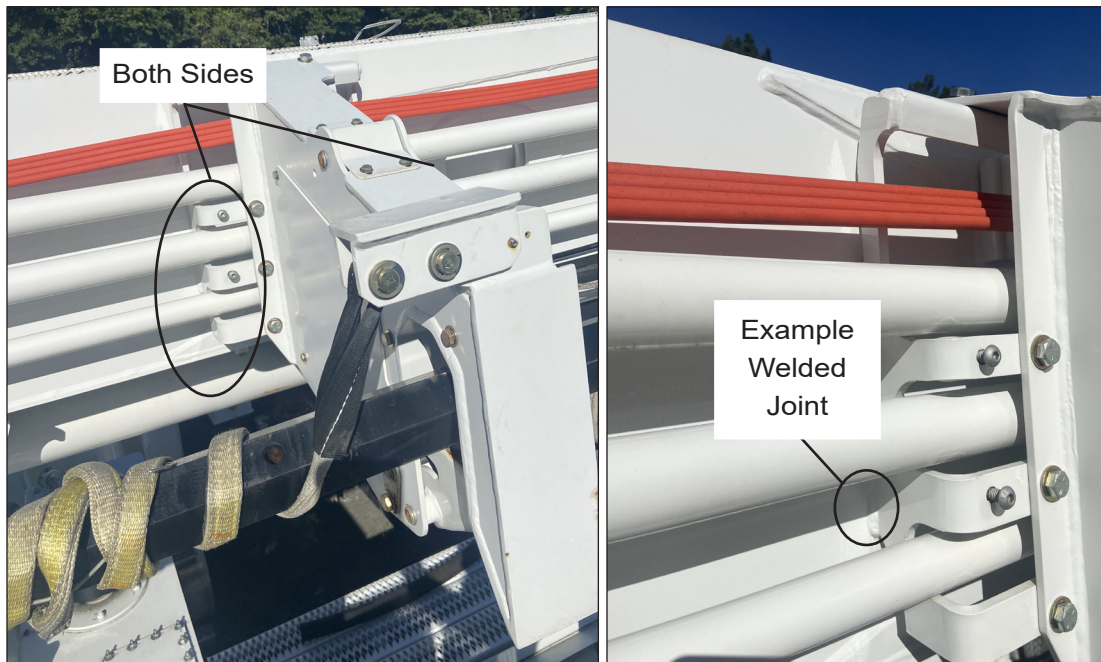

Figure 2 — Inspection Area
7. Inspect the area where the auger stow bracket is welded to the lower boom (refer to Figure 2). Look for cracks along the welded joints on both sides.